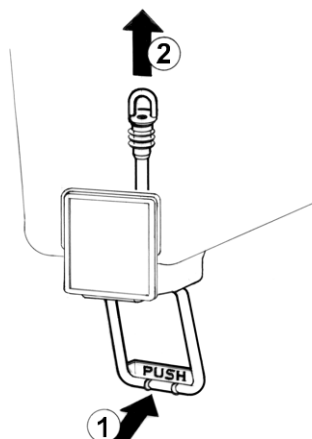

figure 2
- 5 Pinch tube faucet: push the dispensing handle (1) and take the pinch tube off from its seat (2) (see figure 2).